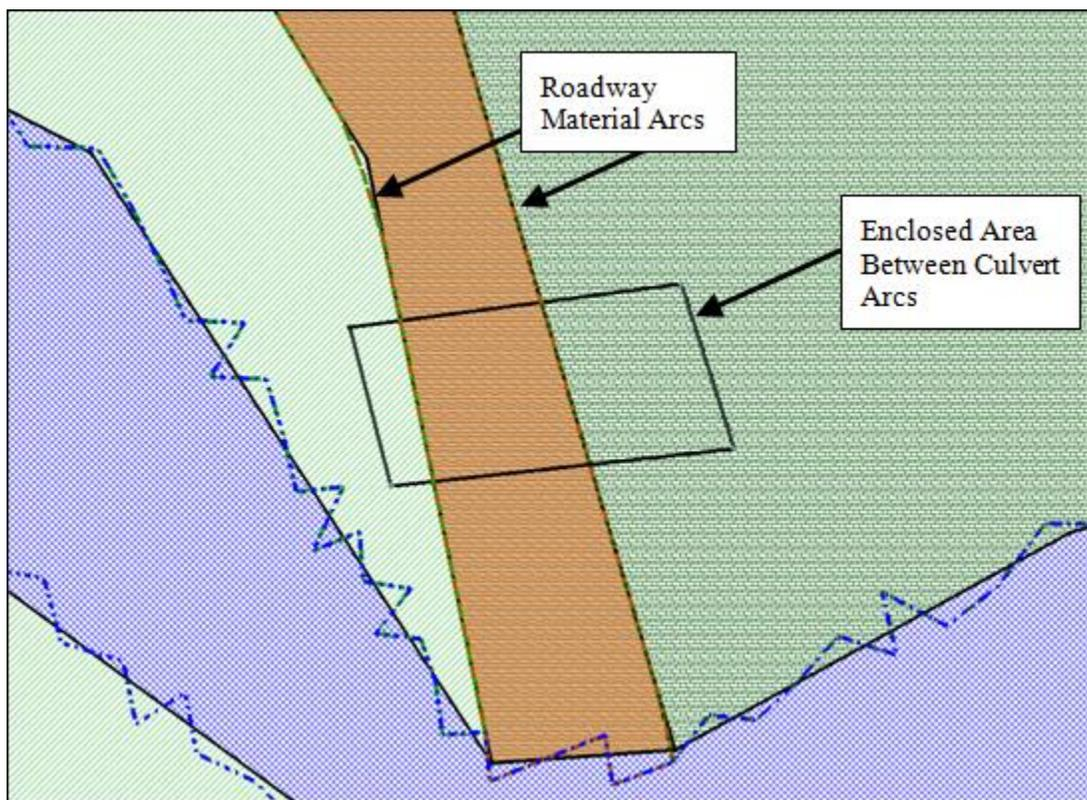

Figure 6 Enclosed Area Between Culvert Arcs and Roadway Material Arcs
3. Using the **Create Feature Arc**  tool, draw one arc enclosing the area between the two culvert arcs. If drawn correctly, the arc should close on itself and it should appear similar to Figure 6.